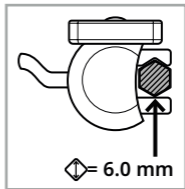

Figure 2 - Instrument Clamp
- The Instrument Clamp Electromagnetic Universal (Figure 2) is optimised for tracking instruments between 3.0 mm and 6.0 mm in diameter (inclusive).